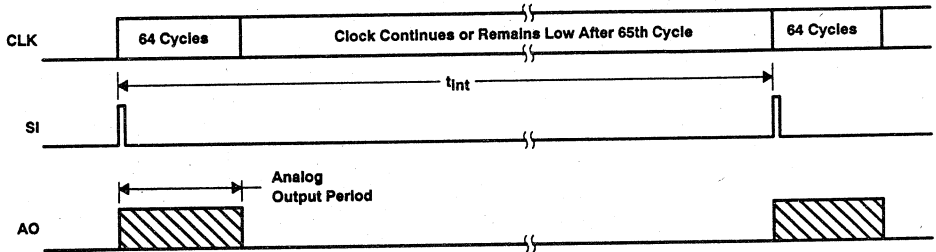

Figure 1. Timing Waveforms
Operation of the 64 × 1 array sensor consists of two time periods: an integration period during which charge is accumulated in the pixels and an output period during which signals are transferred to the output. The integration period is defined by the interval between serial-input (SI) pulses and includes the output period (see Figure 1). The required length of the integration period depends upon the amount of incident light and the desired output signal level.
The output period is initiated by the presence of the SI input pulse coincident with a rising edge of CLK (see Figures 1 and 2). The analog output voltage corresponds to the level of the first pixel after settling time (t_s) and remains constant for a minimum time, t_r . A voltage corresponding to each succeeding pixel is available at each rising edge of the clock. The output period ends on the rising edge of the 65th clock cycle, at which time the output assumes the high-impedance state. The 65th clock cycle terminates the output of the last pixel and clears the shift register in preparation for the next SI pulse. To achieve minimum integration time, the SI pulse may be present on the 66th rising edge of the clock to immediately reinitiate the output phase. When the output period has been initiated by an SI pulse, the clock must be allowed to complete 65 positive-going transitions in order to reset the internal logic to a known state.